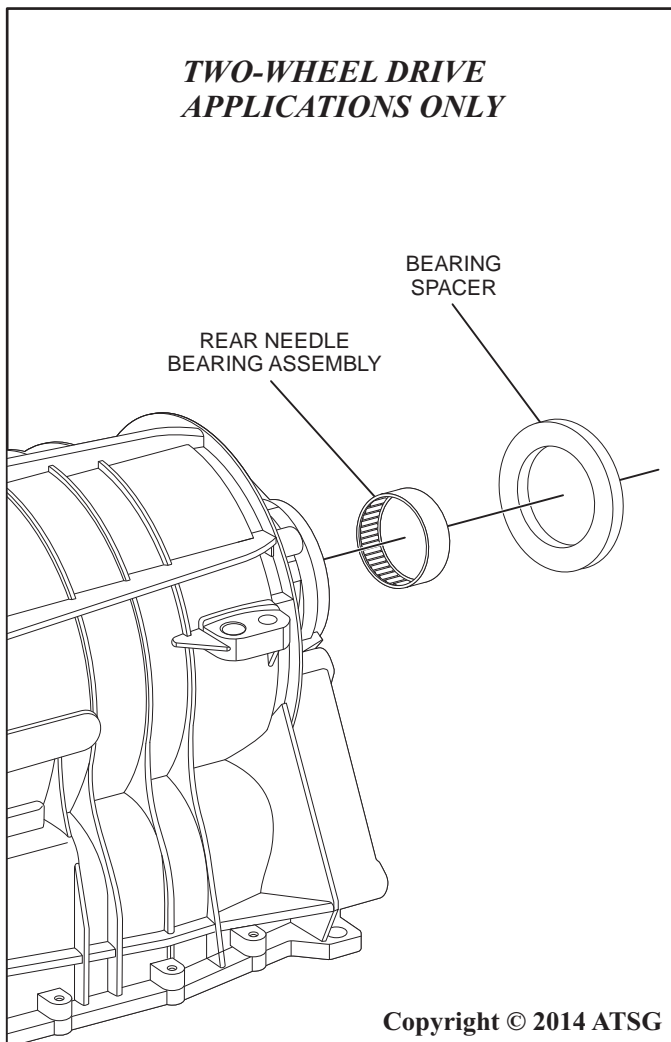

Figure 131
Using ST front wheel hub oil seal installer 205-276, ST rear bearing remover/installer 307-639 and ST drawbar 204-029, install a new rear needle bearing into the transmission case as shown in Figure 131.
2. Install the bearing spacer as shown below in Figure 131.